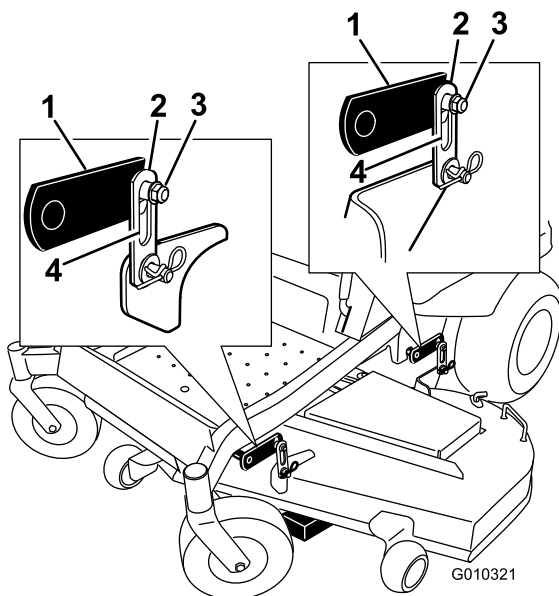

Figure 65
Note: Make sure that the deck hangers are all the way down (at the top of the slot) and the deck lift foot lever is pushed back against the stop (Figure 65).
6. Tighten the four leveling adjust locking nuts (Figure 65).